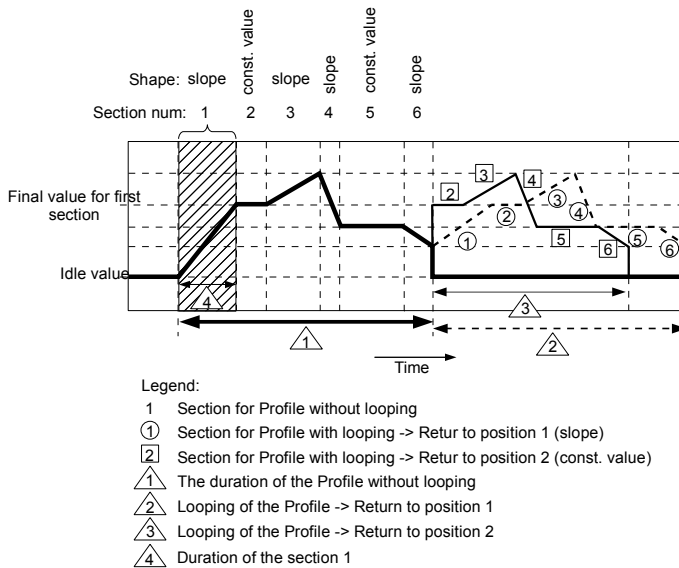

Fig. 7.83. Sample of Profile/timer with description of parameters
- if the section from which begins the next repeat Profile/timer is a **ramp**, then in the whole duration of this section is linear generating the output signal from the **final value** of the previous section to **final value** this section. This is shown in Fig. 7.83 (dashed line-run profile)
- if the section from which the next repeat of the Profile/timer begins is a constant value, then Profile signal quickly transient (0.1 seconds) from the **final value** of the previous section to a **constant value** in this section. This is shown in Fig. 7.83 (profile guided fine line).